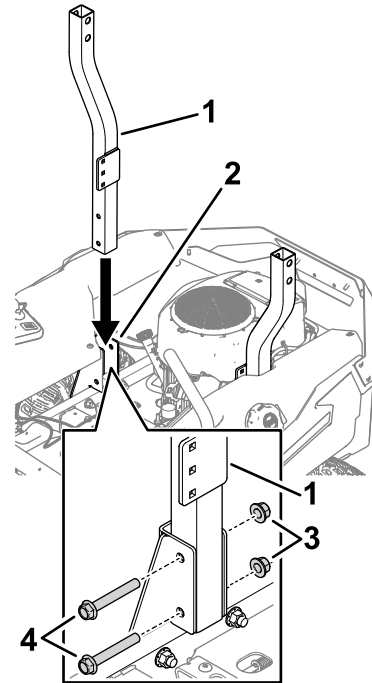

Figure 6
2. Lower a lower roll-bar tube into the ROPS mount and secure with 2 hex-head bolts (1/2 x 3-1/2 inches) and 2 locknuts (1/2 inch) as shown in Figure 6. Repeat on the other side.